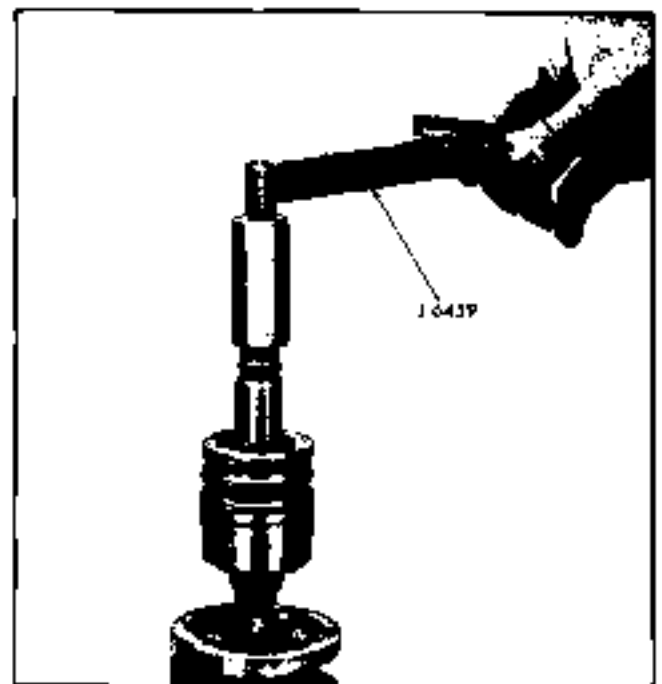

Fig. 9-75 Checking Worm Preload
4. Attach an inch-pound torque wrench with 3/4" 12-point socket to stub shaft (Fig. 9-75).